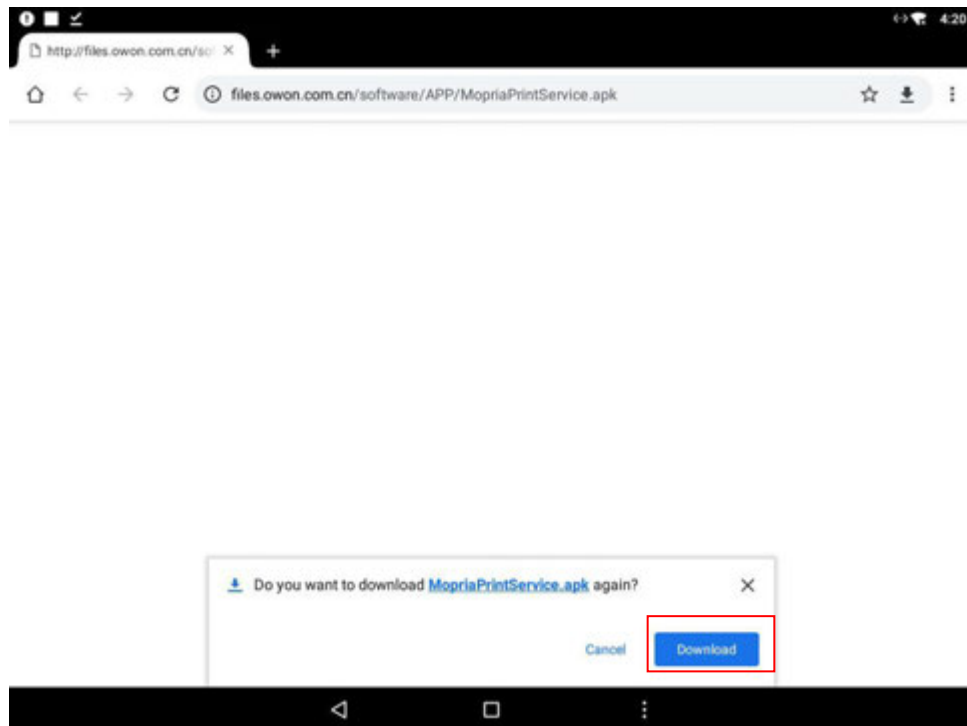
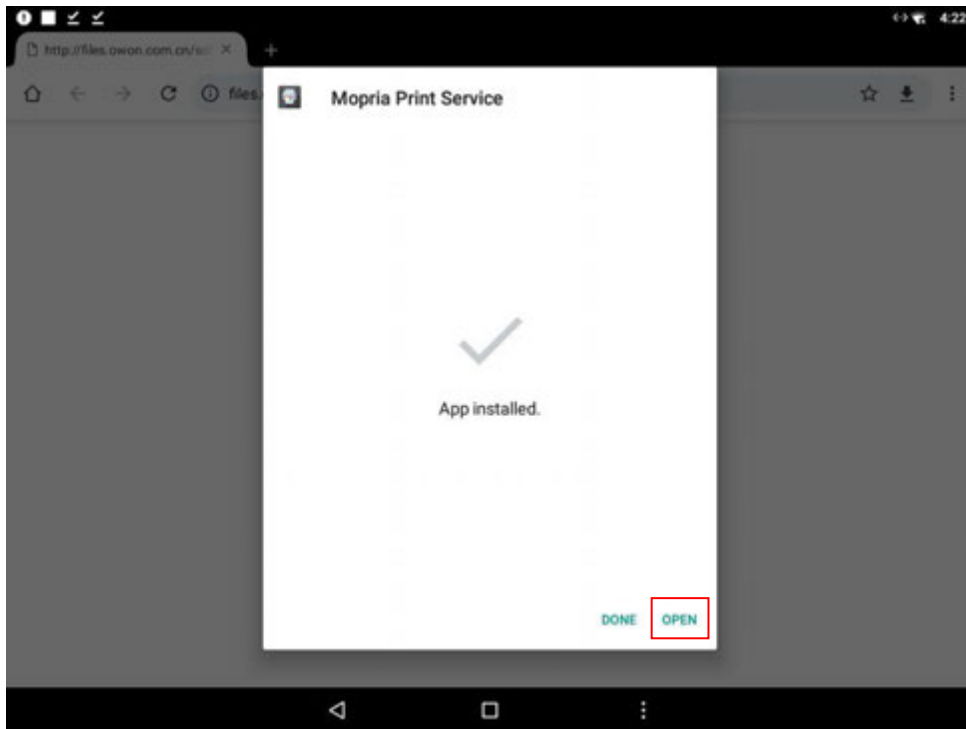

Figure 1
Figure 5
2、 In official website install print app, steps as shown in Figure1 to Figure 5.
① Click download to download installation package, as shown in Figure 1.
⑤ After install success, click open can open print app. As shown in Figure 5.